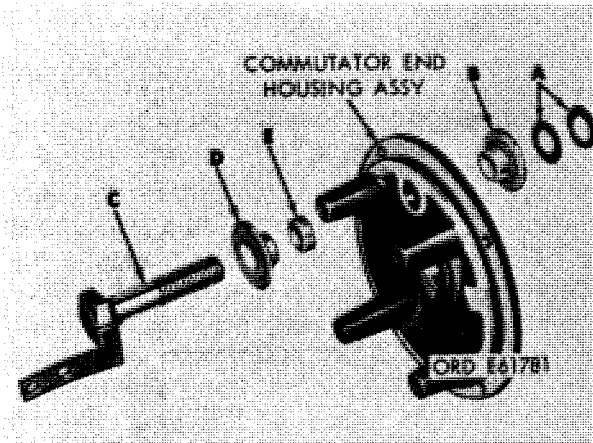

Figure 3-23. Removing or installing brush rigging jumper screw and attaching parts.
c. Remove two guard washers (A, fig. 3-23) and insulating bushing (B) from jumper screw (C). Slide jumper screw out of commutator end housing and then remove insulating bushing (D) and sealing ring (E).